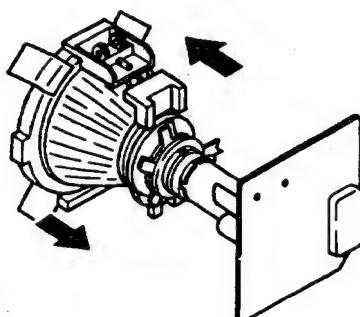

Fig. 3-1
(See Figures 3-1 through 3-3.)
- Move the deflection yoke forward and adjust so that entire screen is red. (See Figure 3-1.)